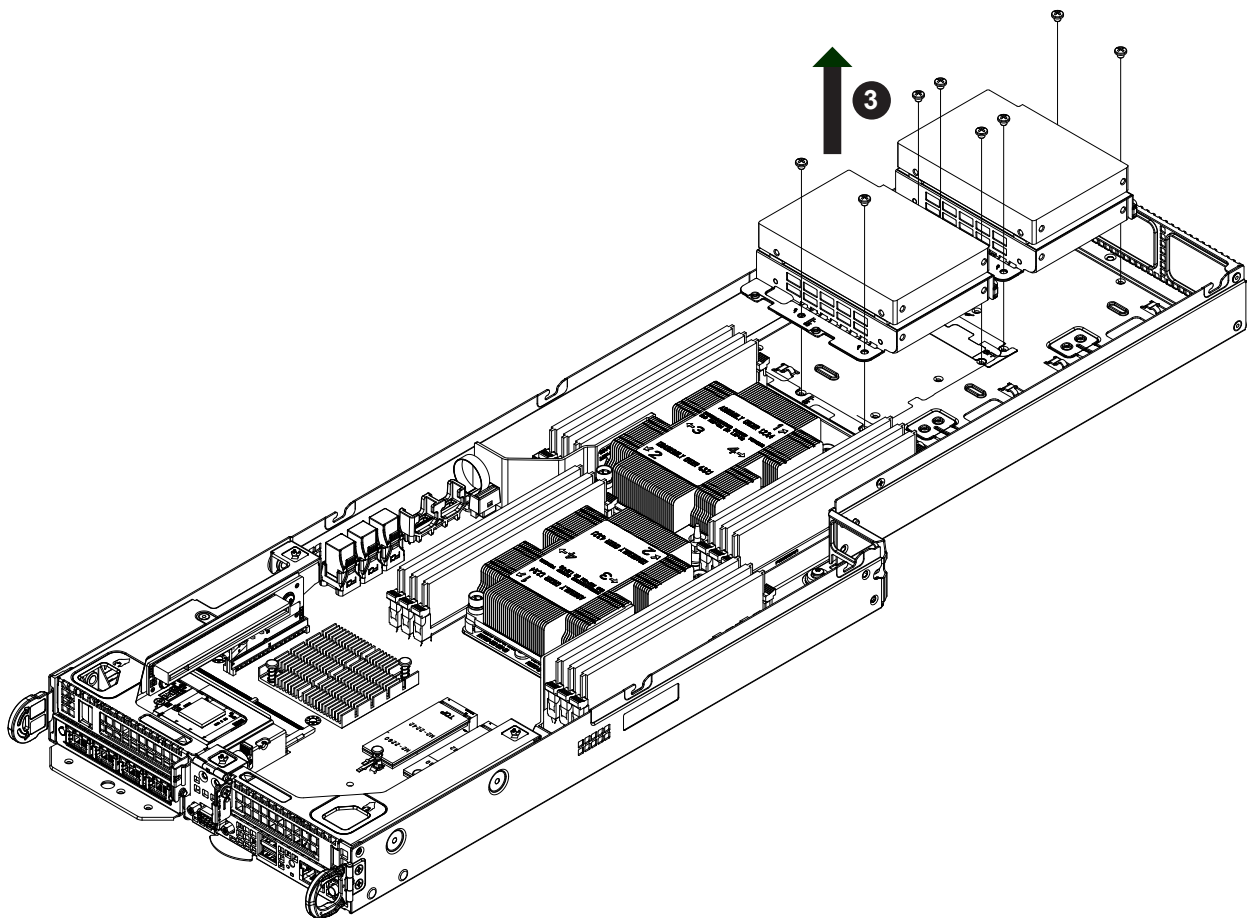

Figure 3-4. Removing a 2.5" Fixed Hard Drive in a Node
- **IPMI > Server Health > NVMe SSD** – Shows the temperatures of all NVMe drives, as in Figure 3-4.